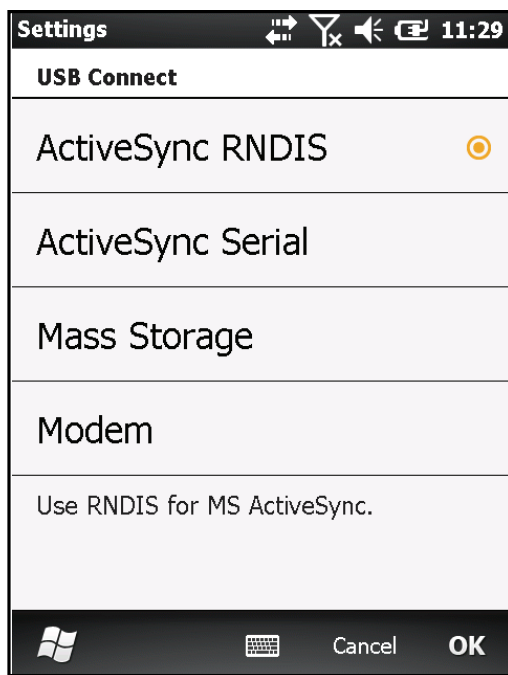

Figure 7-1 ActiveSync over RNDIS Window
5. The window shown in Figure 7-1 displays. Select **ActiveSync RNDIS**.